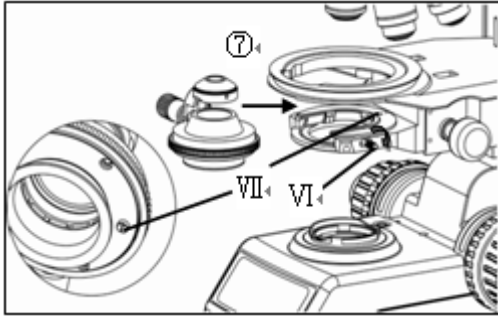

Fig 9
4-2-7 Install The Electric Condenser (fig 9)
Drop the small stent to the lowest location , and Inset condenser into the small stent according to the path ⑦ shown in the figure 9, until the VIII bolt piles into the VII slot completely. Then screwing in the VI slot to fasten the condenser according to the shown direction and stick electric condenser tightly.